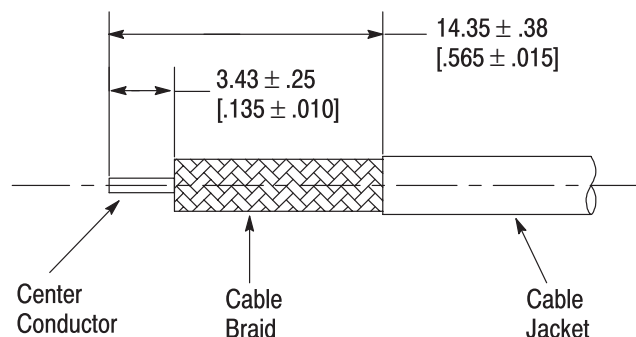

Figure 3
1. Strip the cable jacket to the dimension shown in Figure 3.
3. Strip the tinned braid and dielectric, exposing the center conductor to the dimension in Figure 3.